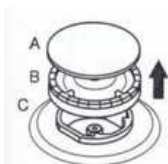

Figure 12
- Remove the burner cover and burner as shown in in the Figure 12.